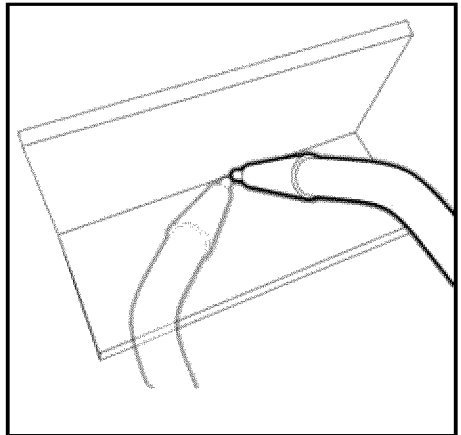

Fig. 7b
2. Angle B (Fig. 7b) is the angle of the torch in relation to your travel direction. Varying this angle can help the operator to see the arc and the weld bead position. It will also increase or decrease penetration. By rotating the contact tip and nozzle in the direction you will travel, it will help decrease penetration by deflecting the force of the arc. By rotating the contact tip and nozzle in the opposite direction that you intend to travel, it will increase penetration by directing the force of the arc into the weld puddle.